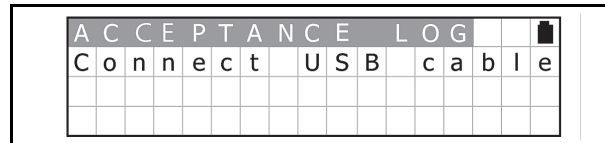

Figure 42 Standby Screen 5
- Connect a proper USB Cable between the Validator and the DT-300™ Device. When the connection is detected, the reload operation will begin automatically (See Figure 42).